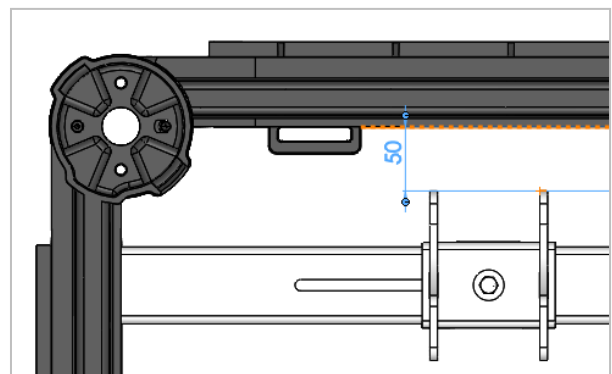

Figure 9
- The back of hinge plates should sit 50-60mm from the chamber clear opening as shown in figure 9.